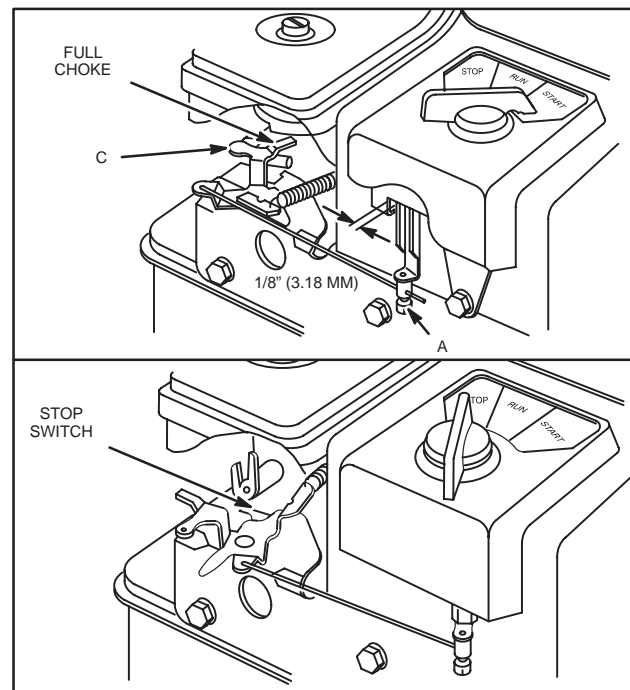

Fig. 357 - CHOKE-A-MATIC® DIAL CONTROL ADJUSTMENTS
2. Loosen control wire screw "A" - move lever "C" to full choke position. Allow a 1/8" (3.18 mm) gap between lever and bracket as shown, Fig. 357.